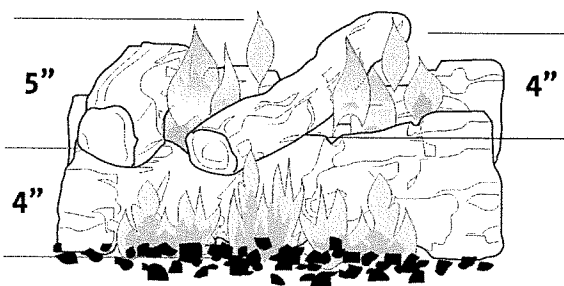

Figure 24. Flame appearance on the "high" setting after approximately 15 to 20 minutes operation.
3. **BURNER ADJUSTMENT:** The Jøtul GF 600 DV Firelight gas stove is equipped with a variable gas control valve that provides easy adjustment of the flame height, appearance, and heat output. To adjust the flame between the HI and LOW setting, rotate the HI/LOW knob, located in the center of the valve face. **Flame height will adjust approximately 1.0" to 1.5" between the LOW and HIGH settings. See Fig. 24.**